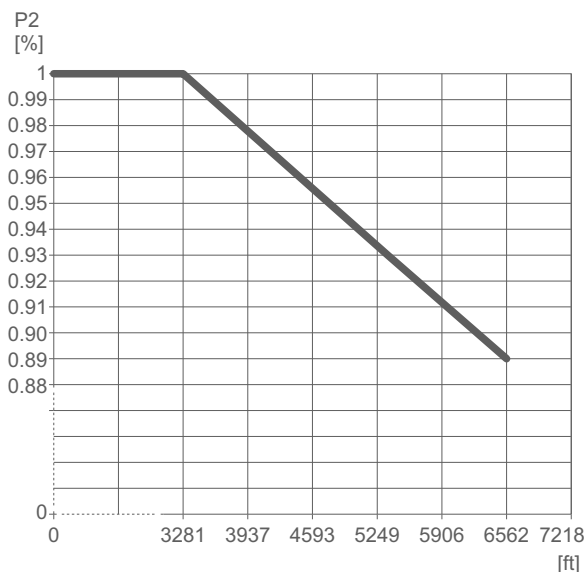

Fig. 72 Derating of motor output power (P2) in relation to altitude above sea level
- Motors installed more than 3280 ft (1000 meters) above sea level must not be fully loaded due to the low density and consequent low cooling effect of the air. See fig. 72.